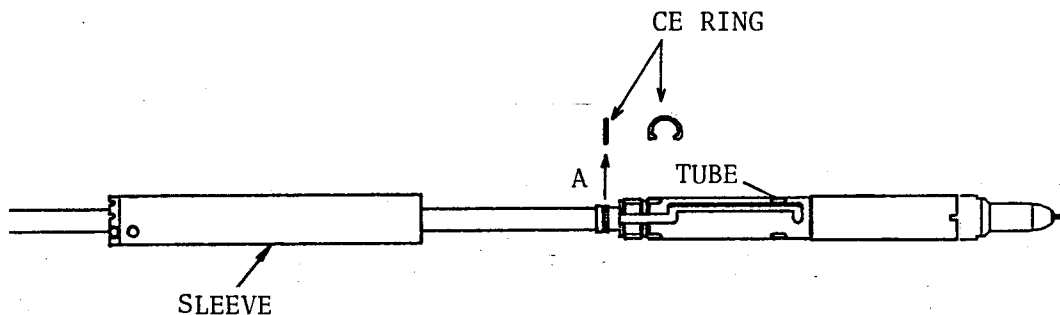

Figure 6-5. CE Ring Removal
3. Pull out the CE RING in the direction of arrow **A** as shown in Figure 6-5.